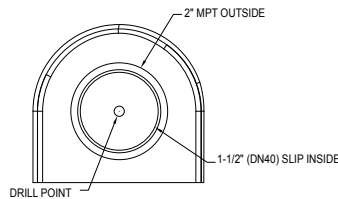

Figure 3.2
- 1) Adding bathroom fixtures - The Qwik Jon® Ultima is designed to accept bathroom fixtures utilizing the two side inlets. These inlets can be attached via the 2" MPT (outside diameter) or the 1½" slip (inside diameter). These inlets must have the inner portion drilled out using a 1¾" (44 mm) hole saw (see Figure 3.2). This is to ensure there are no leakage problems from inlets not in use. When utilizing side inlets, install a check valve on the incoming line.